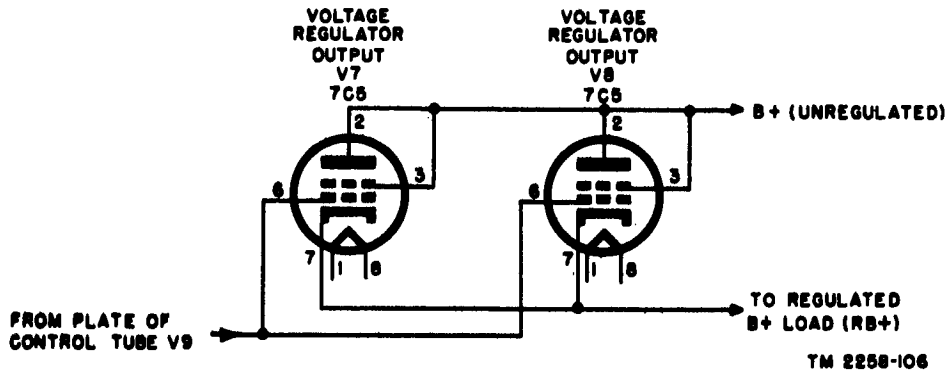

Figure 63. Voltage regulator output stage, RB+ circuit
- (6) The 1,800-cycle signal from the fork unit is supplied to the motor amplifier circuit, and the motor can operate.
- (7) The push-to-talk relay control circuit on the CARBON MIKE jack is closed to put the transmitter on the air when a radio circuit is used.
- (8) Resistor R98 (in Facsimile Transceivers TT-1B/TXC-1 through TT-1F/TXC-1 only) is disconnected as a shunt across R92 and is shunted across the LINE JACK terminals.
79. B+ Voltage Regulators (V7, V8, V9, and V25) (figs. 63, 64, and 65).
a. Two triode-connected voltage regulator output tubes (V7 and V8, type 7C5) (fig. 63) are connected in parallel with their plates at +450-volt potential and their cathodes at +250-volt potential. In this way, their plate cathode impedance forms a variable series dropping resistor to drop the +450 volts to +250 volts. The value of this dropping resistor is automatically varied by varying grid bias of the tubes to provide a constant output voltage. Tube V9, type 7L7, a pentode, control voltage amplifier tube amplifies voltage changes in the +250-volt supply and controls the grids of regulator tubes V7 and V8. The gaseous voltage regulator tube (V25) in the cathode circuit of V9 provides a constant voltage drop (approx. 70 volts), serving as a reference level for stabilizing the +250-volt output. This tube is type R1160A or R1160B in Facsimile Transceivers TT-1/TXC-1 and TT-1A/TXC-1 and type 5651 in Facsimile Transceivers TT-1B/TXC-1 through TT-1F/TXC-1. The output voltage may be stabilized anywhere between +240 and +255 volts, but once established, it will not vary more than 2 volts under normal operating conditions.